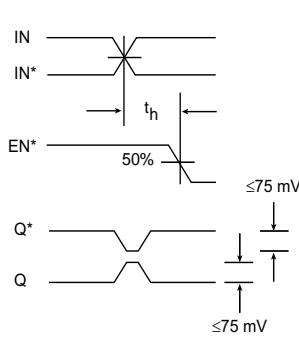

Figure 2. Hold Time
10. The hold time is the minimum time that EN must remain asserted after a negative going IN or a positive going IN^* to prevent an output response greater than ± 75 mV to the IN/IN^* transition (see Figure 2).